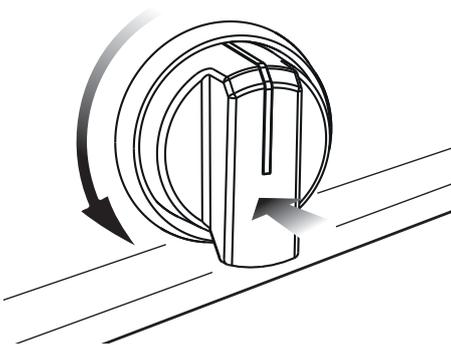

Fig. 2.2
- 1 – Push and turn the knob in an counterclockwise direction up to the ★HI position (maximum rate), push in and hold the knob until the flame has been lit (fig. 2.2).
2. Push and turn the dial in an counter-clockwise direction up to the ★HI position (maximum rate), push in and hold the dial until the flame has been lit (fig. 2.2)